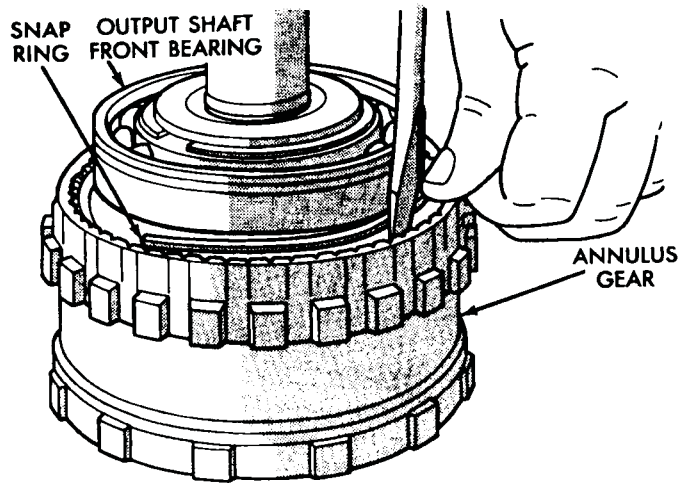

Fig. 45 Annulus Gear And Snap Ring Installation
- (1) Soak direct clutch and overdrive clutch discs in Mopar ATF Plus before installation. Also lubricate geartrain components with ATF Plus during reassembly.
- (2) Install new pilot bushing and clutch hub bushing in output shaft if necessary (Fig. 45). Lubricate new (or old) bushings with petroleum jelly.
- (3) Install front bearing and bearing snap ring on output shaft (Fig. 45)
- (4) Align and install annulus gear on output shaft (Fig. 45).
- (5) Install annulus snap ring (Fig. 45).